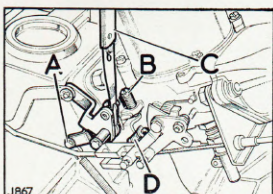

Fig. 8 Throttle lever setting, right-hand viewed from rear
3. Slacken screws (A) Fig. 8, securing throttle lever to carburettor lever on each carburettor.
4. Using an approved carburettor throttle balancing device, turn the slow-running adjustment screws (B) Figs. 8 and 9, until an identical reading is obtained on both carburettors at an engine speed of 600/650 rpm. Should a throttle balancing device not be available the synchronisation of the throttle setting can be checked by listening to the 'hiss' of each carburettor either directly or by means of a rubber tube held near the intake. The intensity of the noise should be equal and if one carburettor is louder than the other its throttle adjusting screw (B) should be turned back until the intensity of 'hiss' is equal.
5. Place a .006 in. (0.15 mm) feeler gauge (C) Fig. 8, between the right leg of the fork and the pin on the right-hand carburettor. Apply light pressure to the linkage to hold the feeler, then tighten throttle lever securing screw (A) Figs. 8 and 9.
hand carburettor. Apply light pressure to the lever to hold the feeler, then tighten throttle lever securing screw (A) Figs. 8 and 9.
7. The fast-idle screws (D) Figs. 8 and 9 should not require adjustment, however if adjustment becomes necessary pull out the cold start control and speed up the engine slightly. Adjust fast-idle adjustment screws until an identical reading is obtained on both carburettors with the balancing device (or hiss method), at an engine speed of 1,100 rpm. Push the cold start control in again.